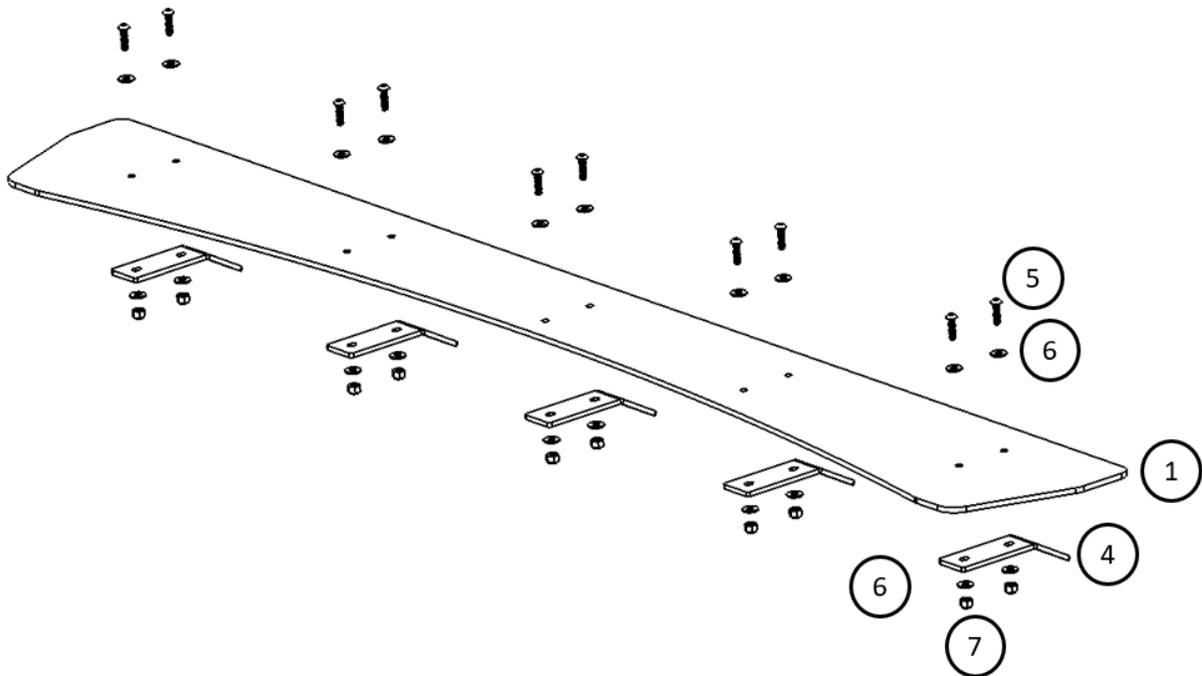
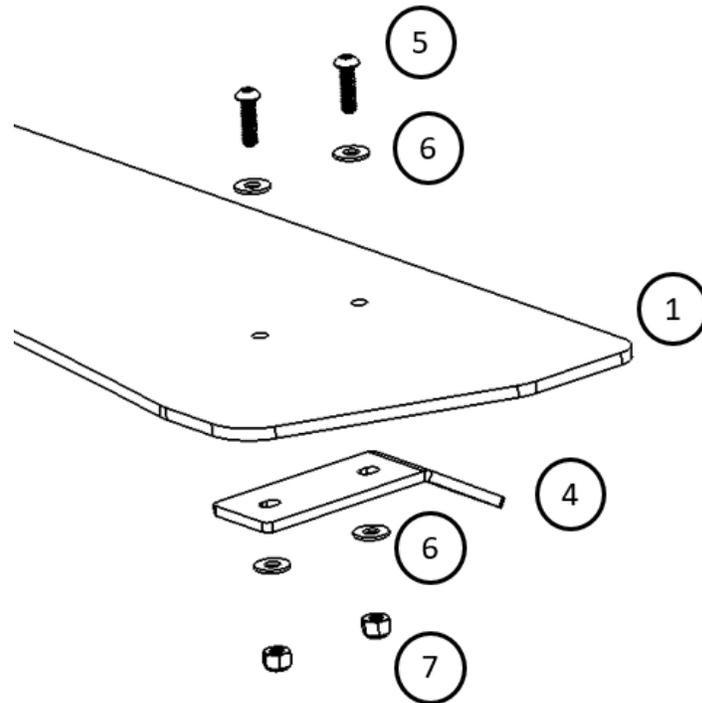

Figure 6: Ram ProMaster Wind Fairing Part Breakdown
Figure 7: Detailed view showing assembly hardware sequence
2. Bolt the wind fairing brackets to the wind fairing using the assembly hardware provided (Items 5, 6, and 7). This is shown in Figure 6 and again but larger in Figure 7. Since the nut used is a nylock nut, no Loctite is required